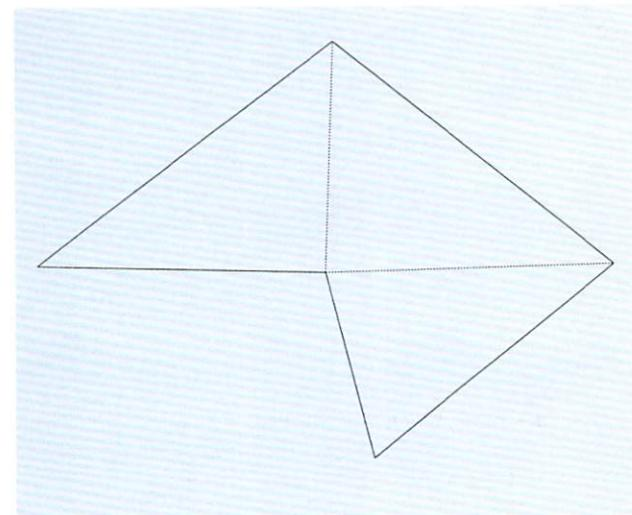

Figure 10: The center of projection specifies the eye location and its distance from the viewplane.
With the pixel's location in 3-D space stored in px and py, let's build a ray. First, we calculate its origin. Simple: The origin is the eye position and the eye lies on the Z axis. Therefore, the X and Y coordinates are both zero. The Z coordinate is set to the center of projection (eye location) specified in the viewing-description file. Remember, because the viewplane is at the center of the Z axis (0), this value specifies distance from the viewplane. (See Figure 10.)